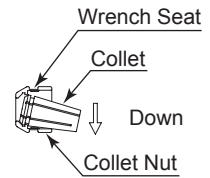

Fig. 6
② The collet and collet nut are secured by a groove in the collet and a flange in the collet nut. To remove the collet hold the collet nut in one hand and push diagonally down on the collet. The collet should be released (Fig. 6).
Press the collet in the collet nut by positioning the collet in the collet nut and pressing down on flat surface (Fig. 6).